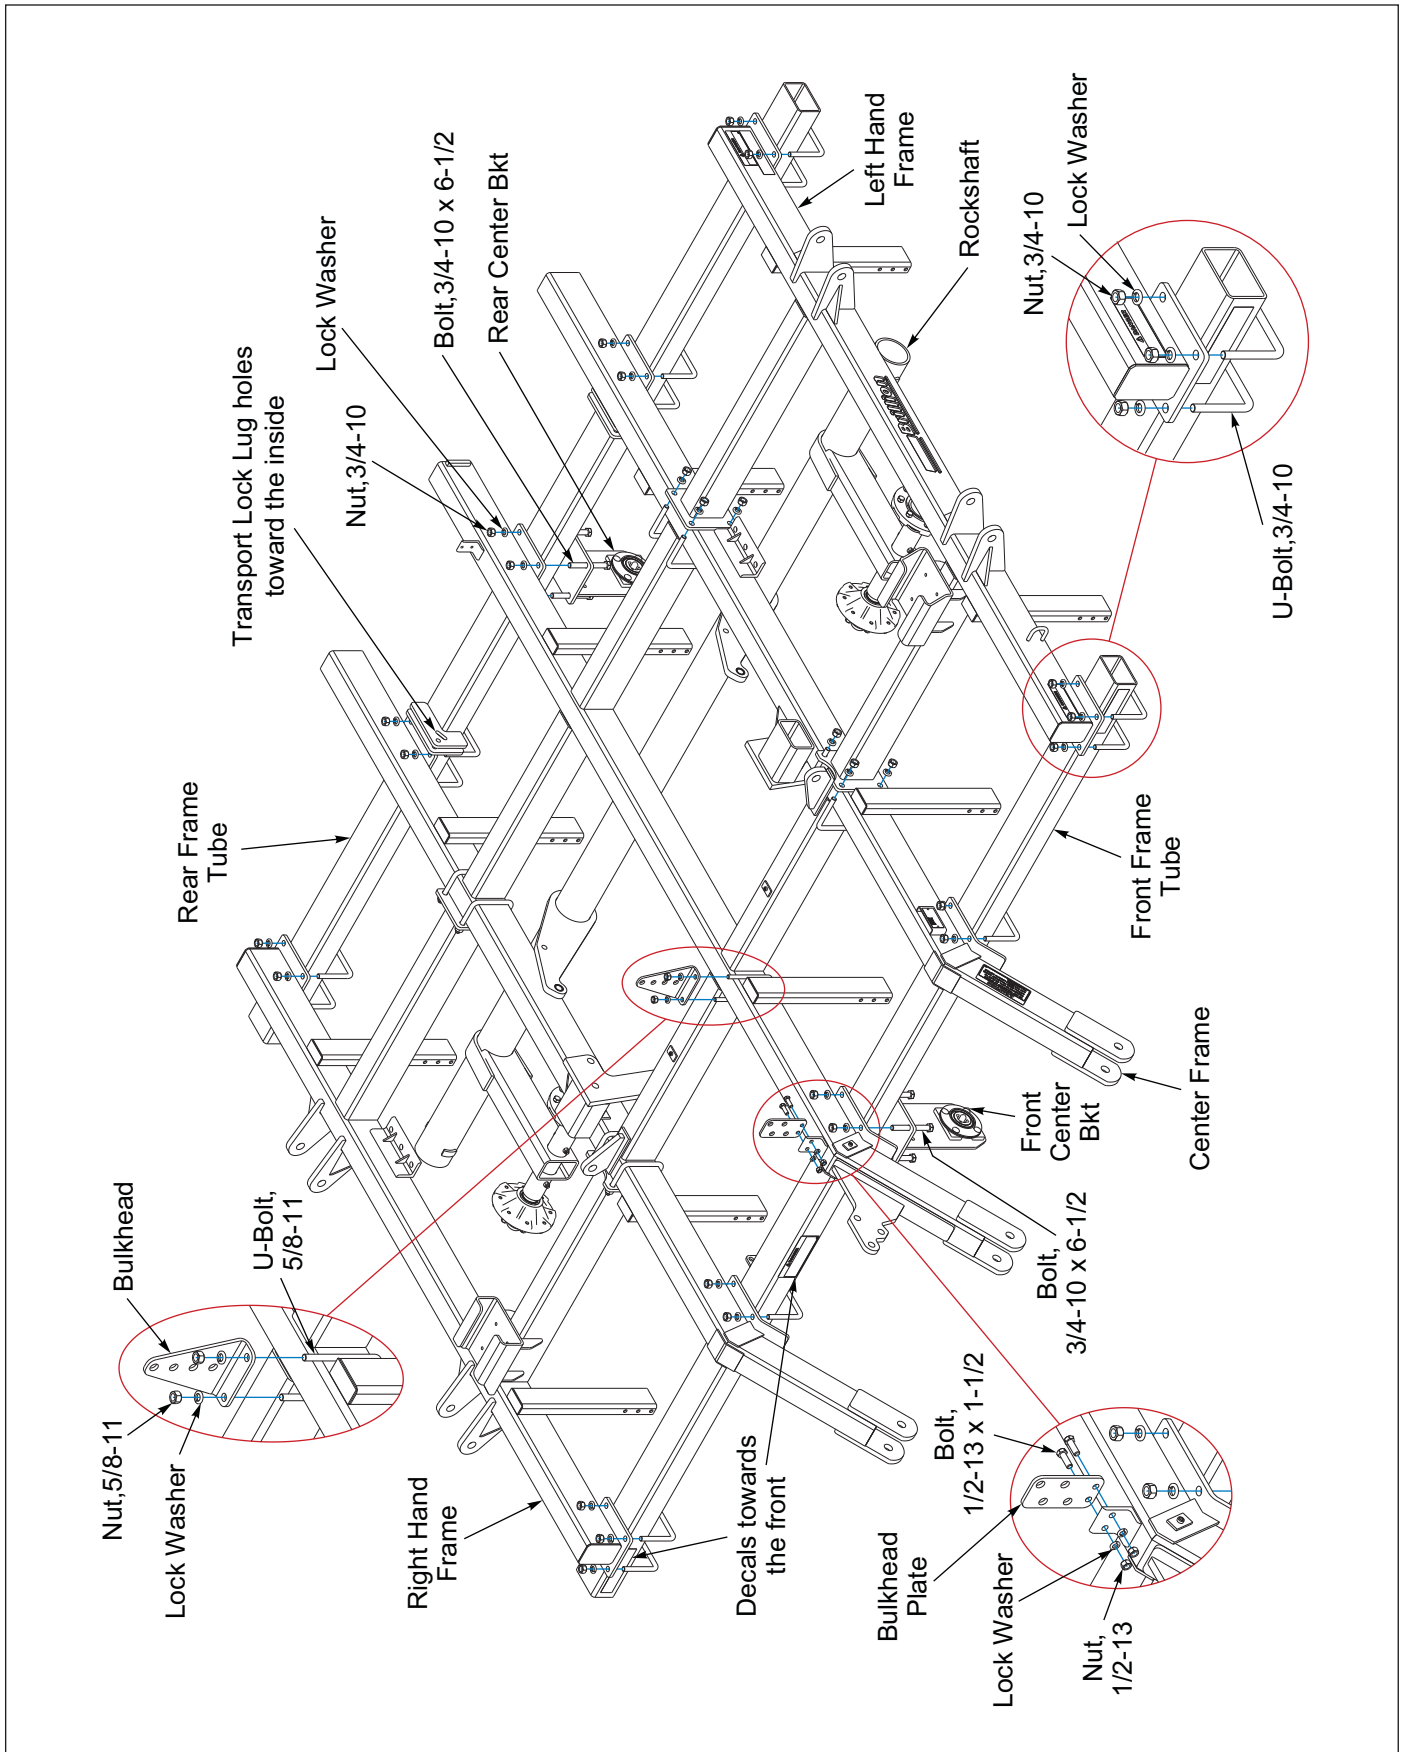

Figure 2-1: Frame Assembly
2. Position the Rockshaft on a level surface under the designated frame assembly area. Lift arms should set on the floor and the wheel hubs should be toward the front of the machine also resting on floor. This will add in ease of assembly. **See Figure 2-1.**
3. Place front and rear frame tube on supports (about 2' high) spaced 15' apart. Be sure supports will hold 4000lbs each. Front frame should be placed such that the hydraulic bulkheads towards the center of the machine. Rear frame tube should be placed such that the holes in the Transport Lock Lugs are toward the center and top of the machine. **See Figure 2-1.**
4. Set center frame section in place so that it is centered on the front and rear frame tubes. Fasten together with 3/4-10 U-bolts, Lock Washers, and Nuts. Do not tighten at this time or put U-bolts in near the center tube of the center section. **See Figure 2-1.**
5. Set LH frame tube and RH frame tube in place on their respective sides of the center section. Attach cross members to center section and to front and rear tubes with 3/4-10 U-bolts, Lock Washers, and Nuts. **See Figures 2-1 and 2-2.**
7. Attach the triangle shaped Bulkhead to the Center Frame Center Tube in front of the center frame cross member using 5/8-11 U-bolts, Lock Washers and Nuts. **See Figure 2-1.**
8. Attach Front Center Bracket which has no offset to the Center Frame using 3/4-10 Bolts, Lock Washers and Nuts. **See Figures 2-1 and 2-3.**
9. Attach the Rear Center Bracket to the Center Frame so the offset is to the right, using 3/4-10 Bolts, Lock Washers and Nuts. The offset allows room for the longer wheel and axle assembly to be mounted to the left. **See Figures 2-1 and 2-3.**